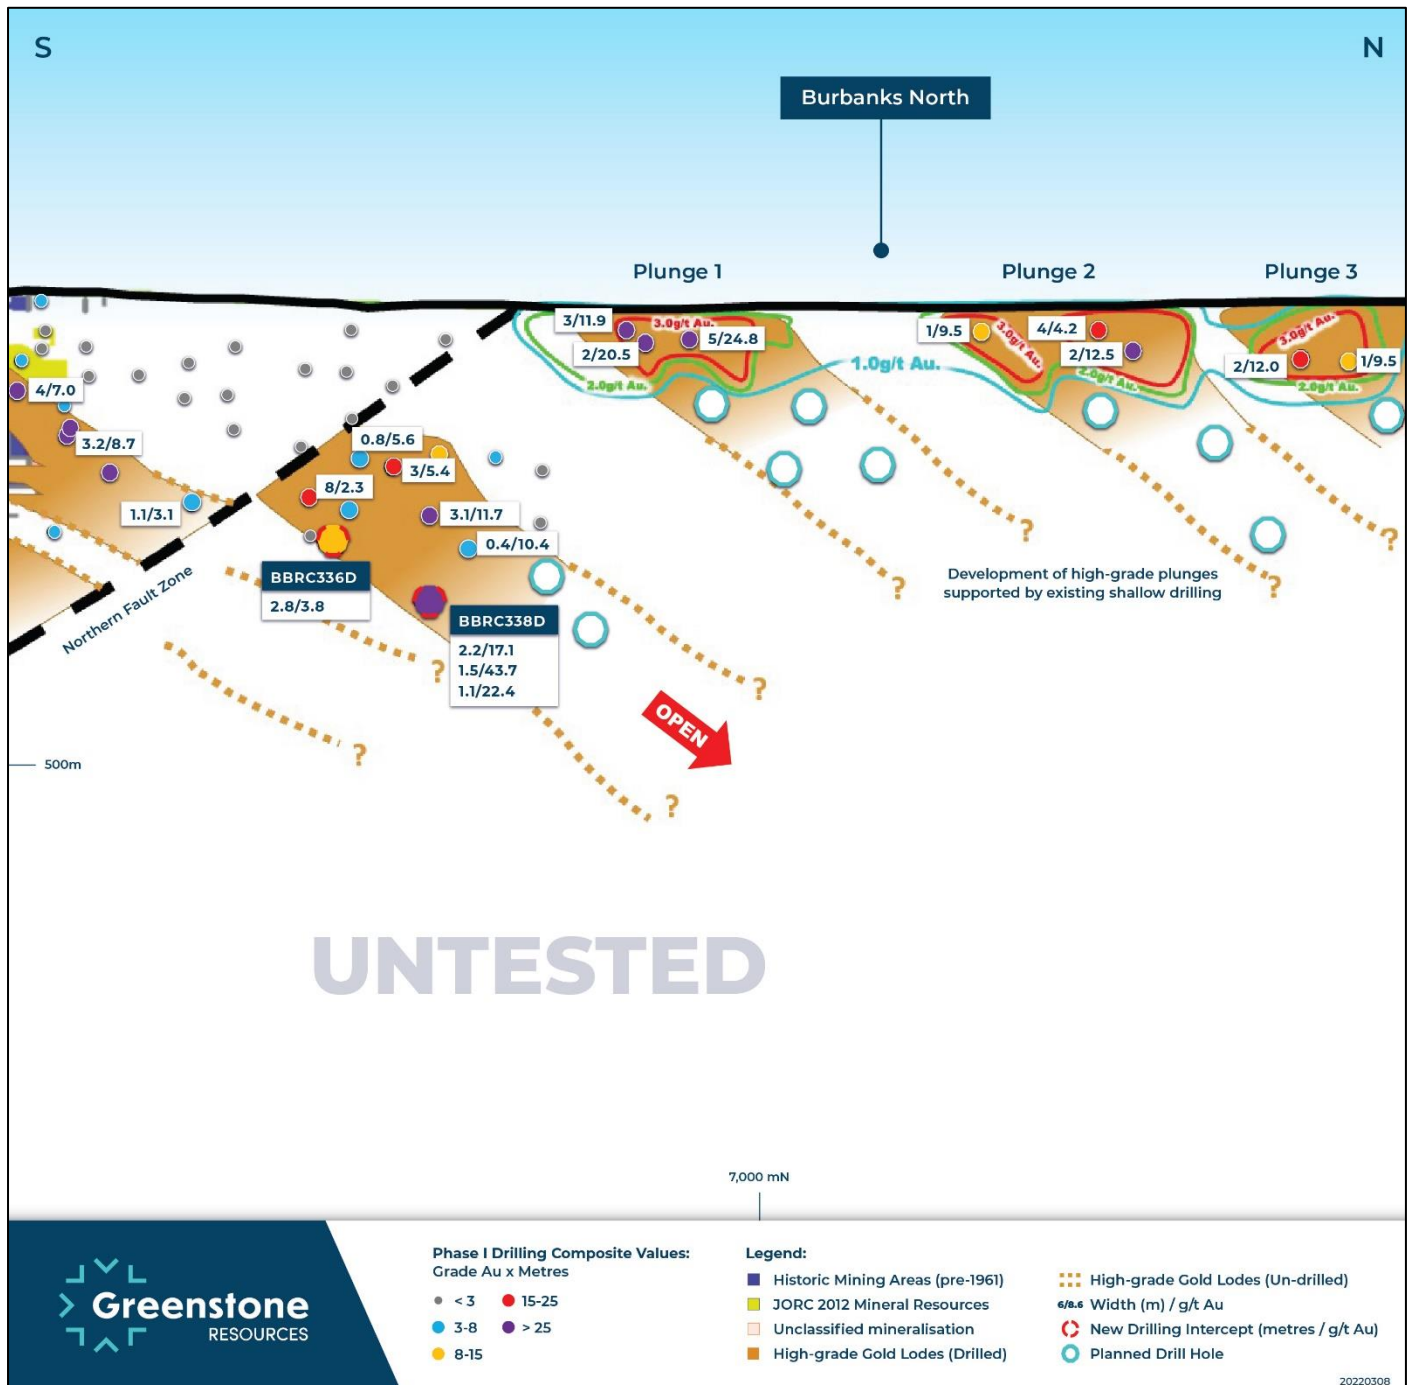

Figure 2: Burbanks North Long section showing recently discovered high-grade mineralisation
Outside of the Burbanks Mining Centre, Greenstone controls over 5.0 kilometres of the highly prospective Burbanks Shear Zone which has seen limited exploration below 150 metres, despite hosting known mineralisation, including the shallow Burbanks North Deposit of 359,998 tonnes @ 1.8g/t Au for 20,400 ounces (Inferred). This under explored horizon below 150 metres forms the basis of the current drill campaign at Burbanks North, with BBRC338D targeting the down dip extensions of a new high-grade discovery (see ASX:GSR 15/12/2021) serving to reaffirm the continuity of high-grade mineralisation beyond the Northern Fault which was previously thought to terminate mineralisation north of Main Lode (Figure 2).
Following the receipt of hole BBRC338D, the remaining 15 holes are testing the recently identified high-grade plunges from surface at Burbanks North (Figure 2). These shallow high-grade plunges at Burbanks North were identified late last year following a comprehensive geological re-interpretation of the previously completed shallow drilling supporting the Burbanks North resource. While the previous resource estimation continues to remain robust, the analysis served to identify the development of three high-grade and near surface plunges (Figure 2). These high-grade plunges are directly analogous to those observed within the Burbanks Mining Centre which formed the principal focus of historical mining activities. The multipurpose drill rig has subsequently been mobilised to test these high-grade targets at depth, with the initial seven shallower holes exclusively employing Reverse Circulation (RC) drilling techniques (double shifting) serving to advance the return of final assays.